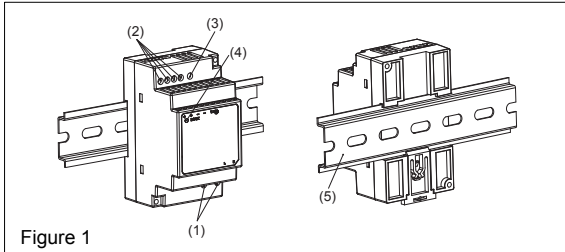

Figure 1
2. Device description (Fig. 1)
5.1. Input connection (Fig. 1 (1), Fig. 5)
Use L and N connections of input terminal connector (see Fig. 1 (1)) to establish the 100-240 VAC connection.
5.2. Output connection (Fig. 1 (2))
The output voltage can be adjusted from 11.5 to 14.5VDC on the potentiometer. The green LED DC OK displays correct function of the output (Fig. 1 (4)). The device has a short circuit and overload protection and an over voltage protection limited to < 17.4VDC